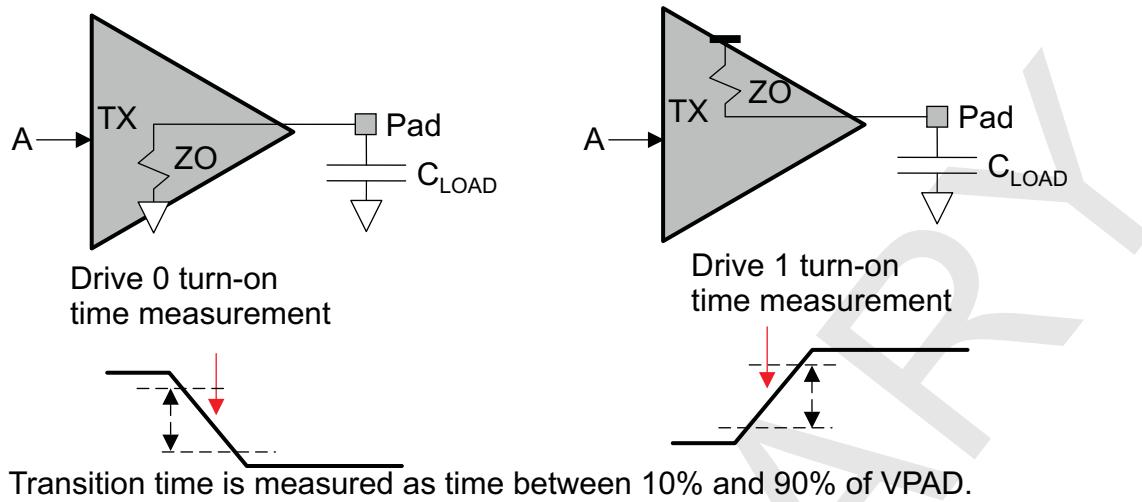

Figure 3-1. Output Transition Time Measurement
(3) Output transition time or turn-on time is measured with the measurement setup (see Figure 3-1) with $Z_O = 40 \Omega$ and $C_{LOAD} = 5 \text{ pF}$ (lumped, no transmission line model).
(4) The ODT register can configure the on-die termination impedance. For more information, see the OMAP543x TRM.
(5) It is recommended to use 34Ω and 40Ω for actual use cases, for optimum performance.